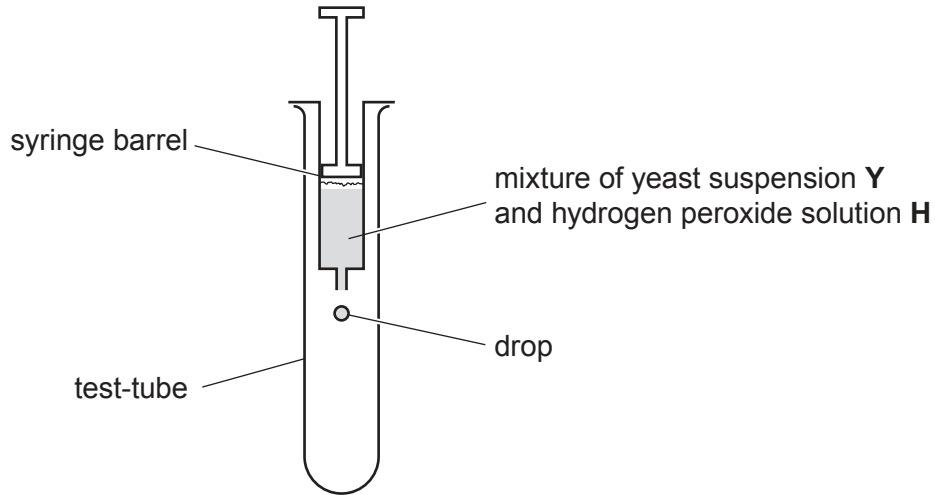

Fig. 1.2
5. Put the syringe into the test-tube, as shown in Fig. 1.2.
13. Put the syringe into the test-tube, as shown in Fig. 1.2.